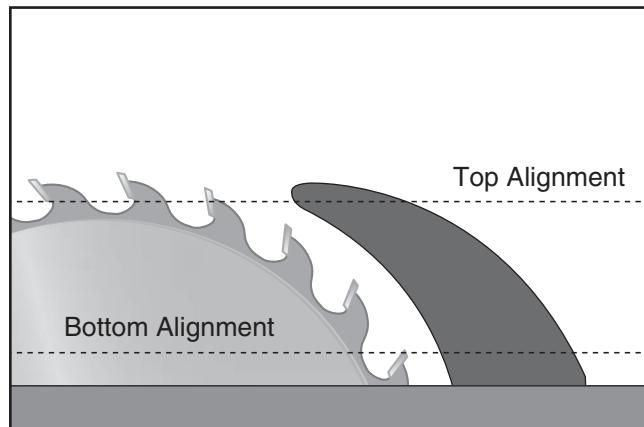
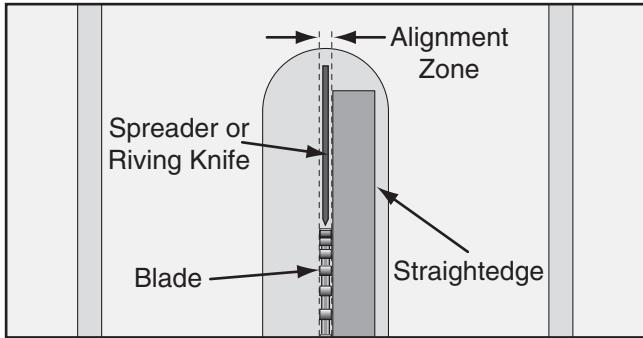

Figure 115. Checking top and bottom riving knife parallelism with blade.
Figure 116. Spreader/riving knife alignment zone.
- Place the straightedge against the top and bottom of blade and spreader/riving knife, as shown in **Figure 115**. The spreader/riving knife should be parallel with the blade along its length at both positions and should be in the "Alignment Zone," as shown in **Figure 116** on **Page 68**.